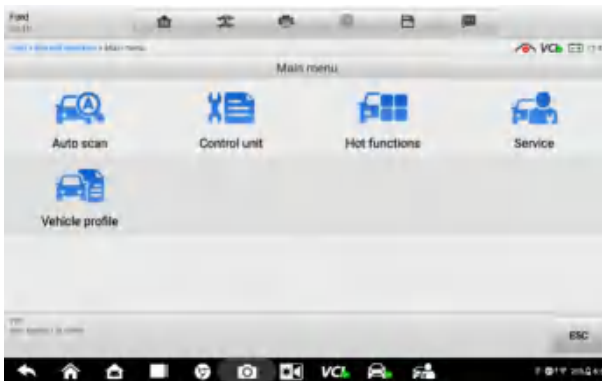

Figure 4-2 Vehicle Diagnostics Screen
5. Tap **OK**. The vehicle will be identified in a few seconds, and once the vehicle information is confirmed, the system will guide you to the Vehicle Diagnostics screen directly. (see Figure 4-2 Sample Vehicle Diagnostics Screen)
The Vehicle Diagnostics screen (Figure 4-2 Sample Vehicle Diagnostics Screen) has 2 main sections: